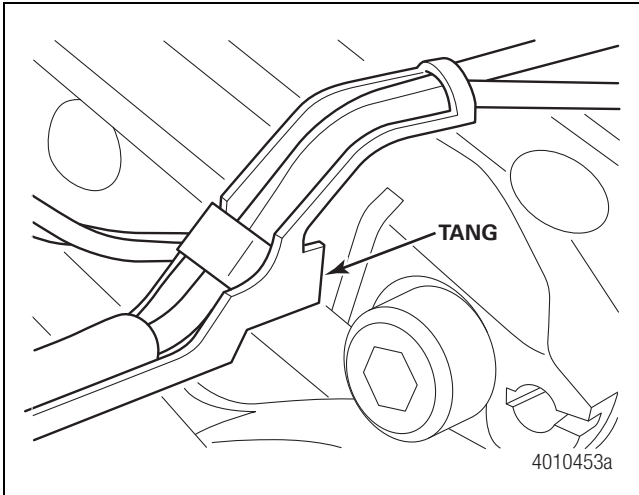
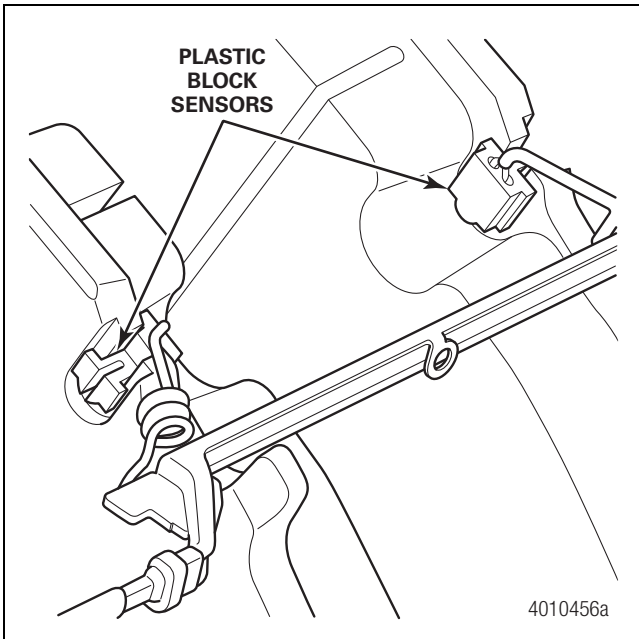

Figure 5.10
Figure 5.11
- **If a pad wear warning indicator (PWWI) is present:** Lift the PWWI assembly and disengage the tang from the housing assembly. Do not remove the plastic block sensors from their locations in the pads unless the PWWI assembly is being replaced. Refer to Section 9 for PWWI service. Figure 5.10 and Figure 5.11.